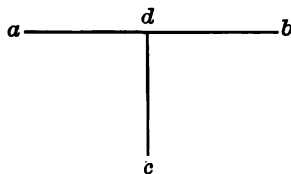

FIG. 122
**166. Echoes.**—If you throw a ball at a board fence so as to strike it at right angles,—as the line  $cd$  (Fig. 122) meets
*angles* (Fig. 122) and come straight back to where they started that we hear the echo.